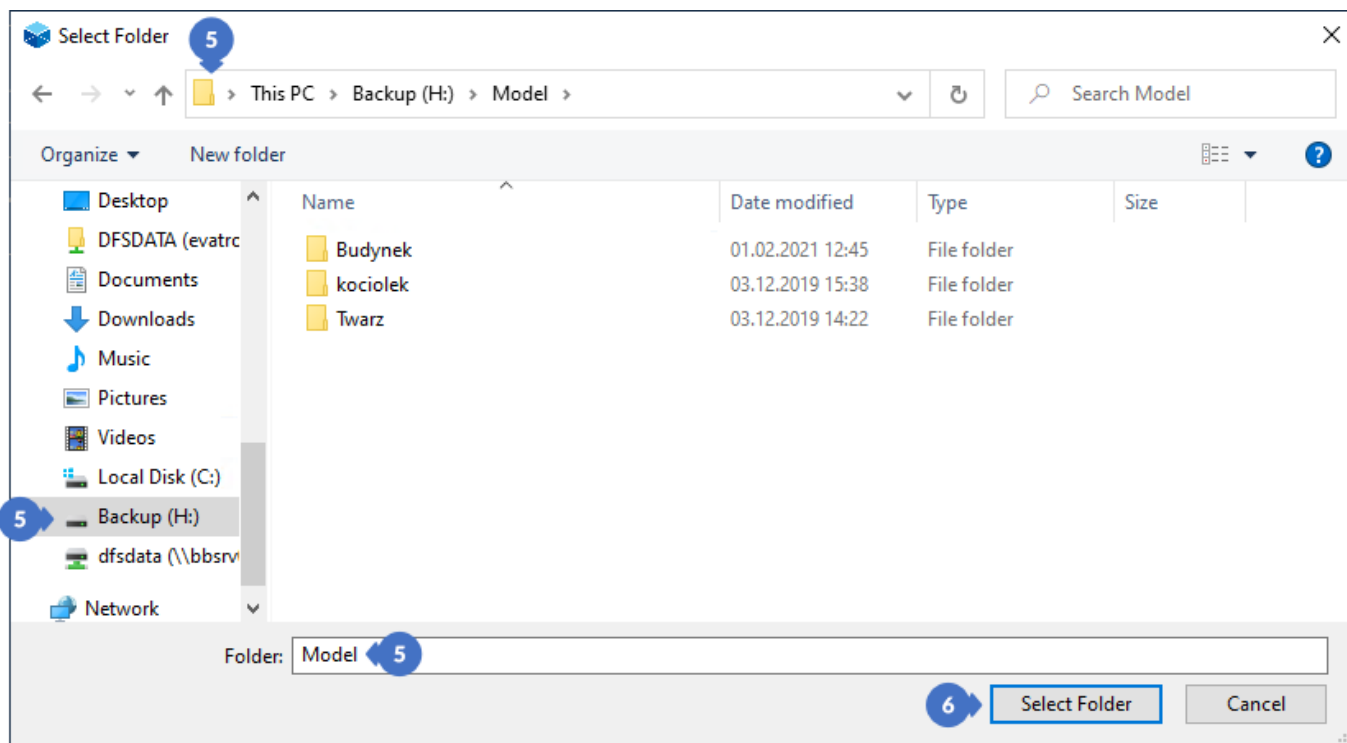

Figure 190. Creating new project requested by eviXscan 3D Suite – path selection
In the window that will be opened (with the use of the *BROWSE* button (2), select the folder (5) in which the project will be created and then click on *Select folder* (6) (Figure 190). The location of the selected folder appears in the field (2) (Figure 189).